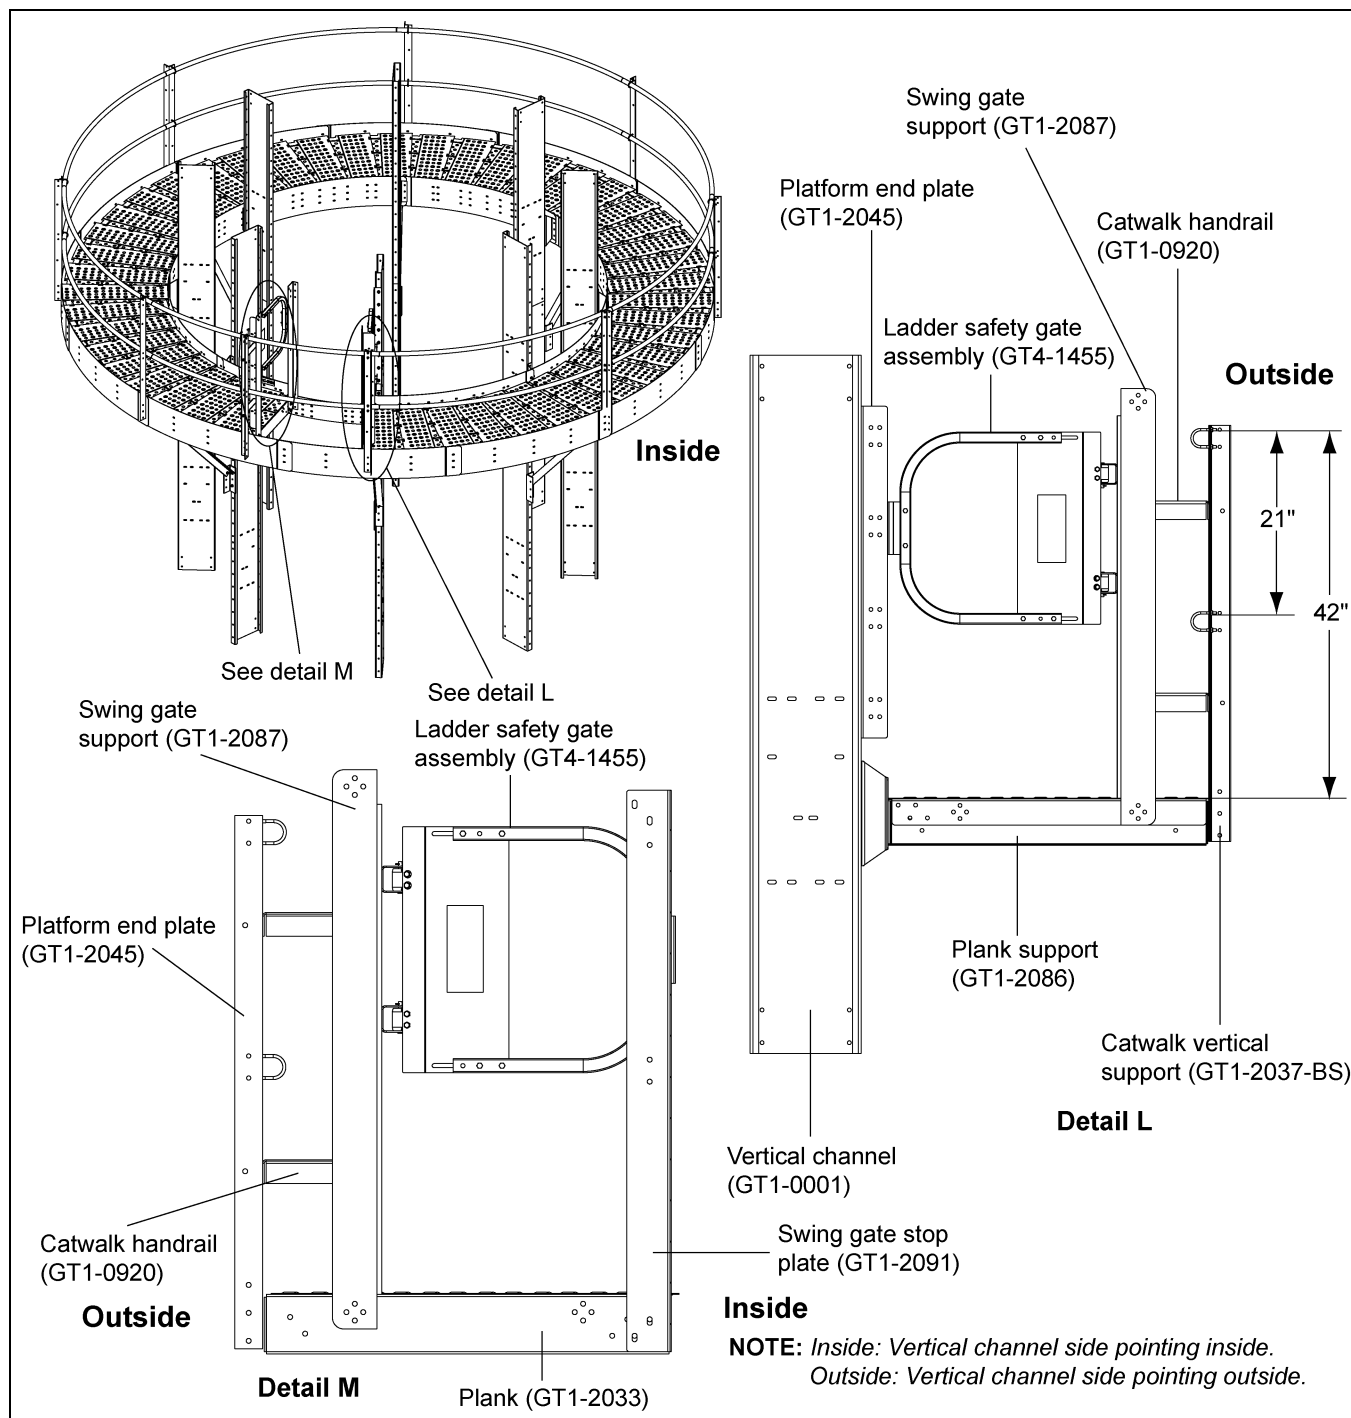

Figure 4X
5. Install the ladder safety gate assembly (GT4-1455) to the swing gate support (GT1-2087) using 3/8"-16 x 1" YDP grade 8 or grade 8.2 bolts (S-7927) and 3/8"-16 ZN grade 5 nuts (S-968). (See detail L in Figure 4X.)
6. Install the ladder safety gate (GT4-1455) to the swing gate support (GT1-2087) and attach the stop plate (GT1-2091) to the ladder opening toe board (GT4-1465) and the plank (GT1-2033) using 3/8"-16 x 1" YDP grade 8 or grade 8.2 bolts (S-7927) and 3/8"-16 ZN grade 5 nuts (S-968). (See detail M in Figure 4X.) The distance between the plank and handrail is 42".